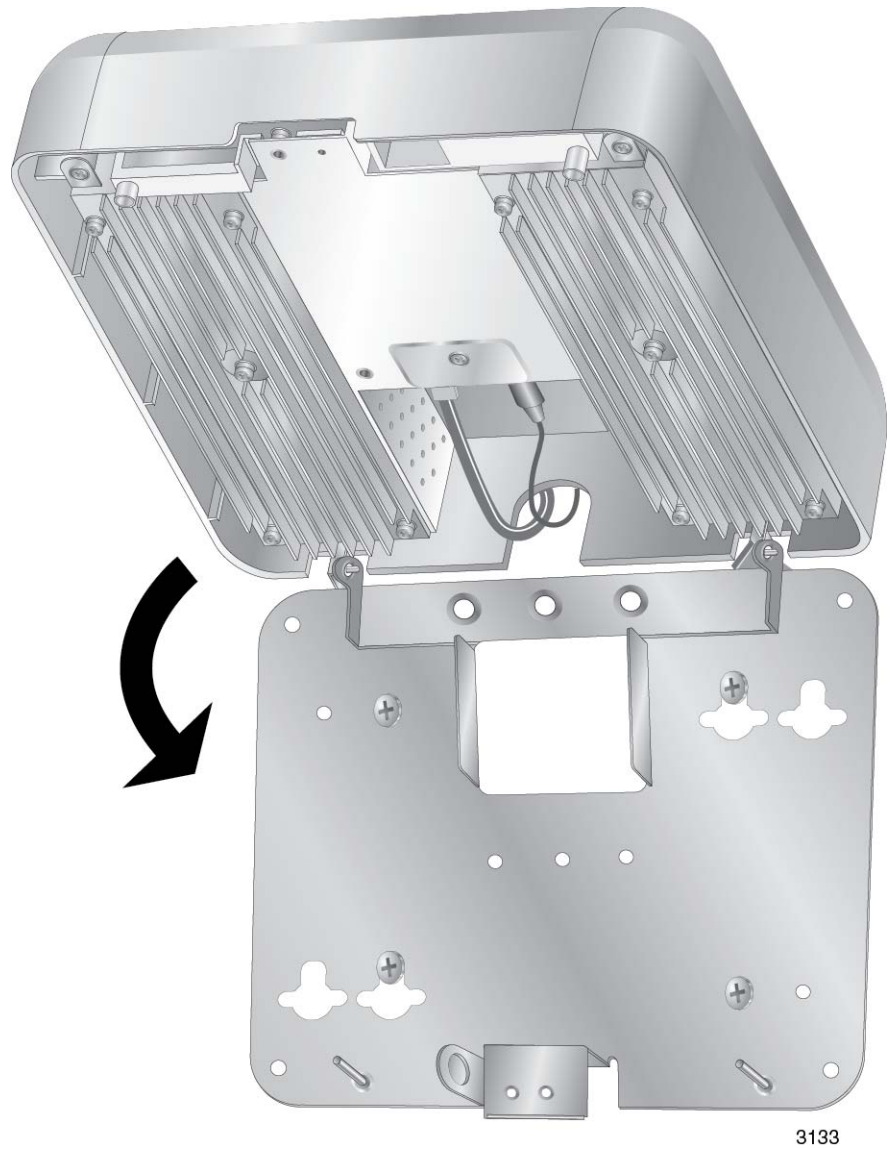

Figure 23. Closing the Access Point over the Bottom Panel
5. Carefully close the access point over the bottom panel. Refer to Figure 23 on page 47.